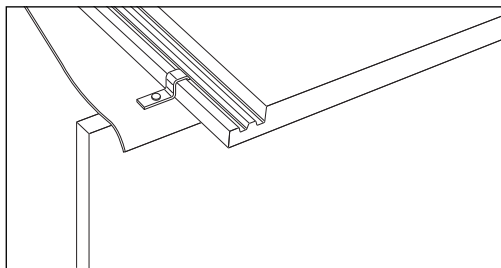

Fig 12 – Eaves clip
- 5 Fix eaves course tiles with nail or purpose-made eaves clip nailed to top of fascia board (Fig 12).